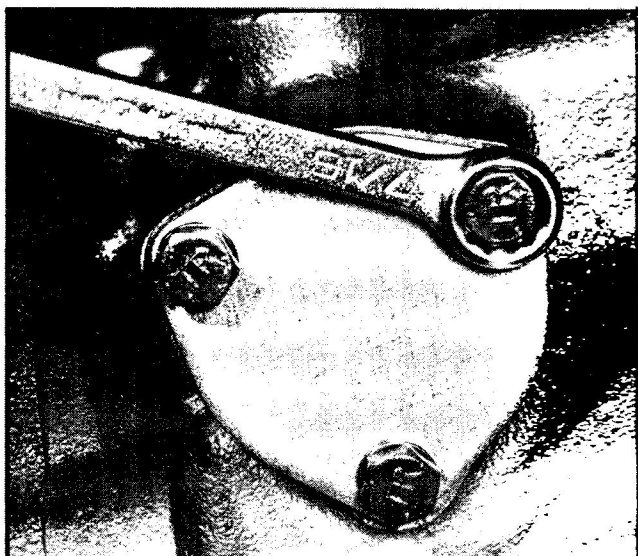

Fig. 19 Remove Valve Cover Bolts
13. Remove valve cover bolts, lock washers, valve cover, and gasket, (Fig. 19). Valve assembly may be removed and disassembled by removing snap ring and spring retainer then spring and regulator valve can be removed from shift valve. Press on retainer, to prevent spring and parts from springing from the assembly, as snap ring is removed, (Fig. 33).